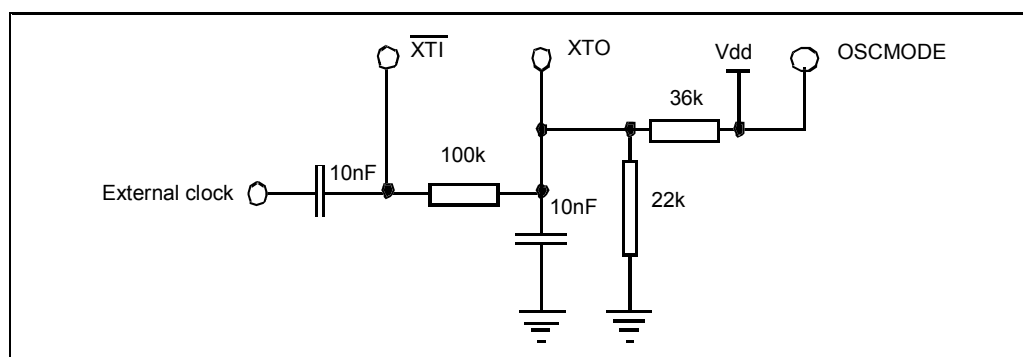

Figure 11 - External Clocking via AC Coupling
- AC coupling of a single ended external clock to \overline{XTI} , with OSCMODE = 1, is possible. It is recommended that the circuit shown in Figure 11 be used to correctly bias the oscillator inputs: The common-mode voltage VCM for \overline{XTI} and XTO, (set by the 15 k Ω and 22 k Ω resistors) must be $800 \text{ mV} < V_{CM} < CV_{dd}$ and the amplitude Vpp of the clock signal must be $> 400 \text{ mV}$.